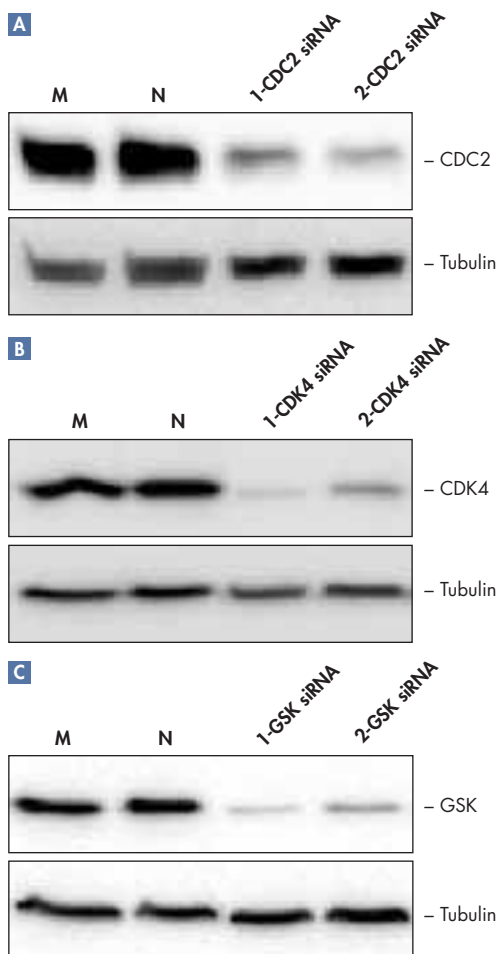

**Figure 1** The QIAvac 24 Plus, Connecting System, and Vacuum Pump allows collection of infectious material for clinical applications.
In combination with the QIAvac Connecting System (Figure 1), the QIAvac 24 Plus can be used as a flow-through system. The sample flow-through, containing possibly infectious material, is collected in a separate waste bottle.
**Figure 1** HeLa S3 cells were transfected with siRNA targeted against each of three genes: **A** CDC2, **B** CDK4, and **C** GSK using RNAiFect™ Transfection Reagent. Cells were also mock transfected without siRNA addition (**M**) and transfected with a non-silencing control siRNA (**N**). After 48–72 hours, cell lysates were separated by SDS-PAGE and analyzed on a western blot using CDC2-, CDK4-, or GSK-specific antibodies. Blots were also probed with tubulin-specific antibody, as an internal control.
2-for-Silencing siRNAs guarantee effective knockdown with at least one of the two duplexes supplied. Western blot analysis shows the high level of knockdown achieved using 2-for-Silencing duplexes directed against three genes (Figure 1). The results show highly efficient silencing using siRNAs designed using the HiPerformance algorithm.